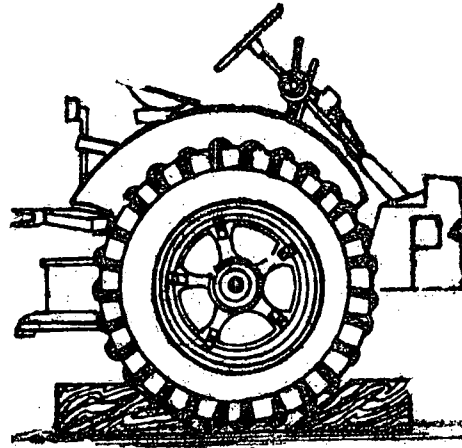

Fig. 2
- d) Block the tractor by chocking the wheels and applying the hand brake (Fig. 2).